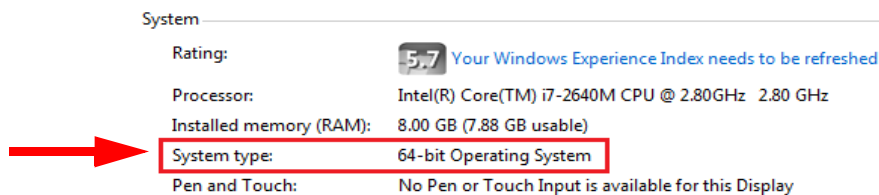

Fig. 5-3 Determine the type of operating system of connected PC
- Determine if your Operating System (OS) is *32-bit* or *64-bit*. Right click **Computer** > **Properties** (see Fig. 5-3).